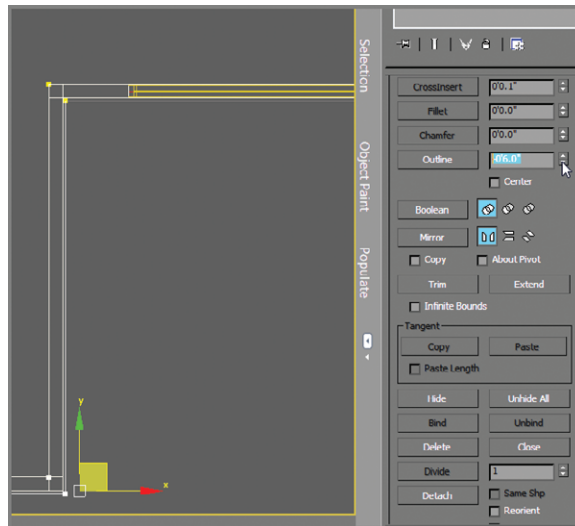

FIGURE 3.21 Change the Outline amount to $-0'6.0''$ to offset the spline.
8. In the Outline Type-In, which is to the right of the Outline button, change the amount to -0'6.0", as shown in Figure 3.21.